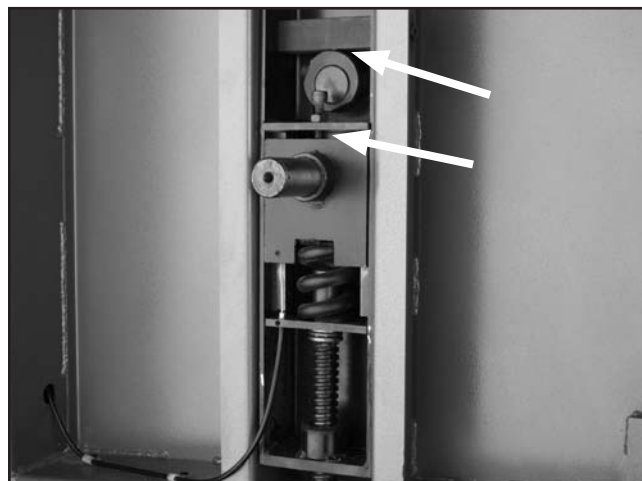

Figure 92. Example of tension adjustment assembly locations (top wheel removed for clarity).
4. Apply a thin coat of multi-purpose GL2 grease to the tension adjustment assembly and tension lever cam (see **Figure 92**).